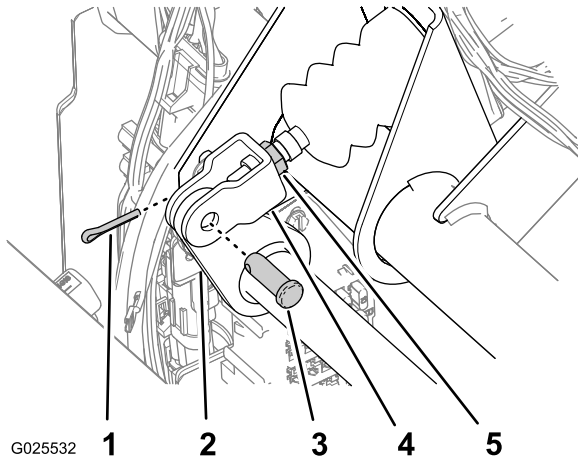

Figure 76
2. Remove the cotter pin and clevis pin securing the master cylinder yoke to the brake-pedal pivot (Figure 76).
7. Tighten the jam nut securing the yoke to the master cylinder shaft (Figure 76).
4. Loosen the jam nuts securing the yoke to the master cylinder shaft (Figure 76).
5. Adjust the yoke until its holes align with the hole in the brake-pedal pivot (Figure 76).
6. Secure the yoke to the pedal pivot with the clevis pin and cotter pin (Figure 76).